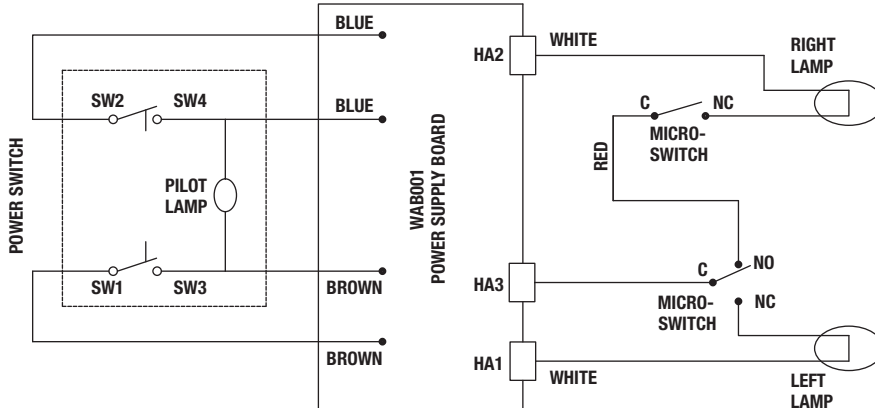

FIGURE 1
9. Run the coiled cord back up through the handpiece handle (ensure proper assembly order of the shoulder spacer, rubber spring and spring collar) and reconnect terminals to the bayonet connector. **See Figure 1.**